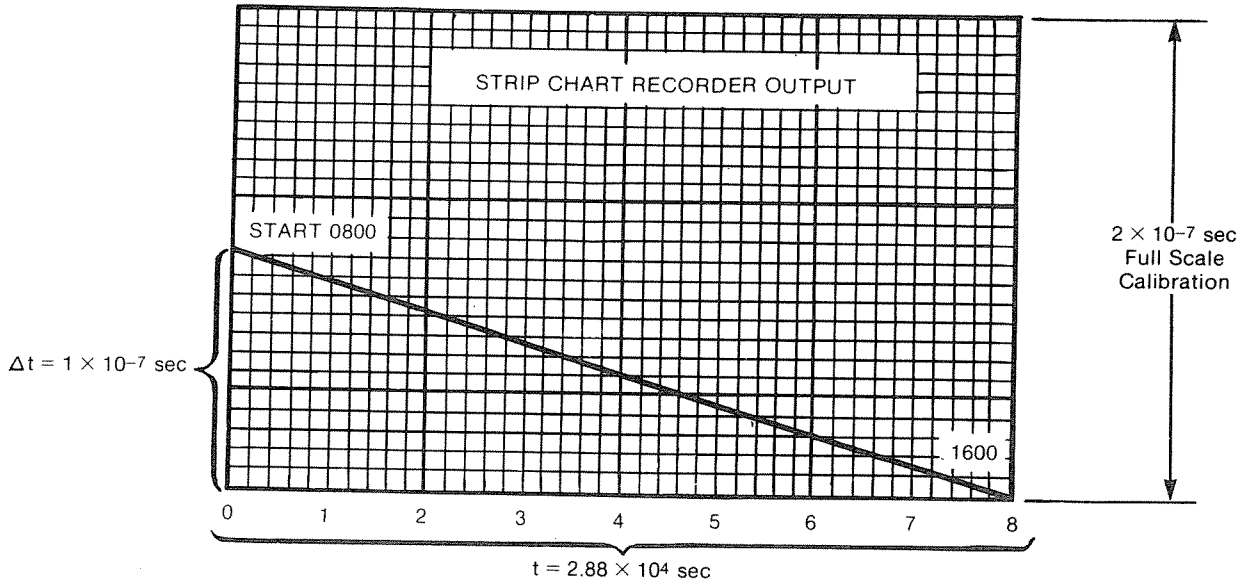

Figure 3-12. Error Measurement
$$\frac{\Delta t}{t} = \frac{1 \times 10^{-7} \text{ sec}}{8 \text{ hrs (60 min/1 hr) (60 sec/1 min)}} = 3.47 \times 10^{-2} \text{ (See Figure 3-12)}$$
- i. With the recorder set for 1 Volt full scale and 1 in./hr., the phase difference recorder will be $0.2 \mu\text{sec}$ full scale with 5 MHz inputs. See Figure 3-12 for an example of a frequency difference measurement under these conditions.